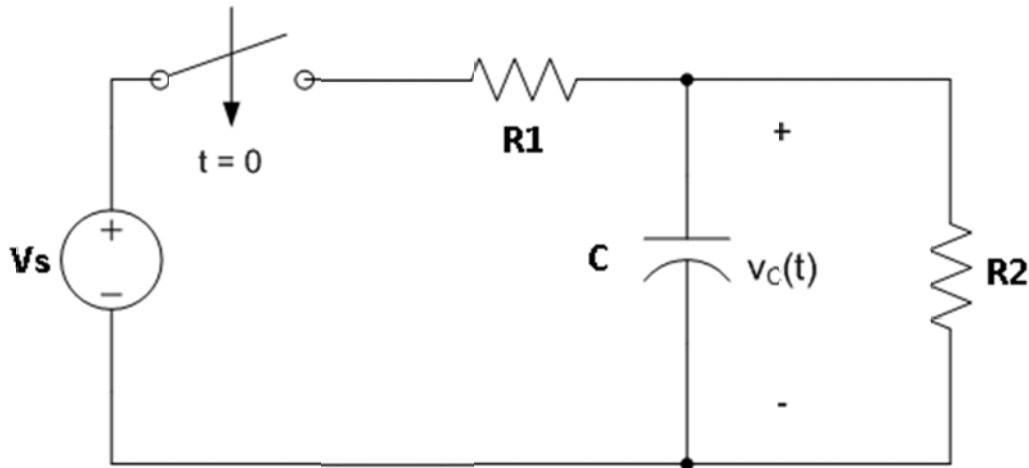

Figure 4: Charging
4) Figure 4 shows a circuit with a charging capacitor. The capacitor's charging voltage transient solution will be of the form
6) Construct the capacitor charging circuit in Figure 4 on the ELVIS breadboard using